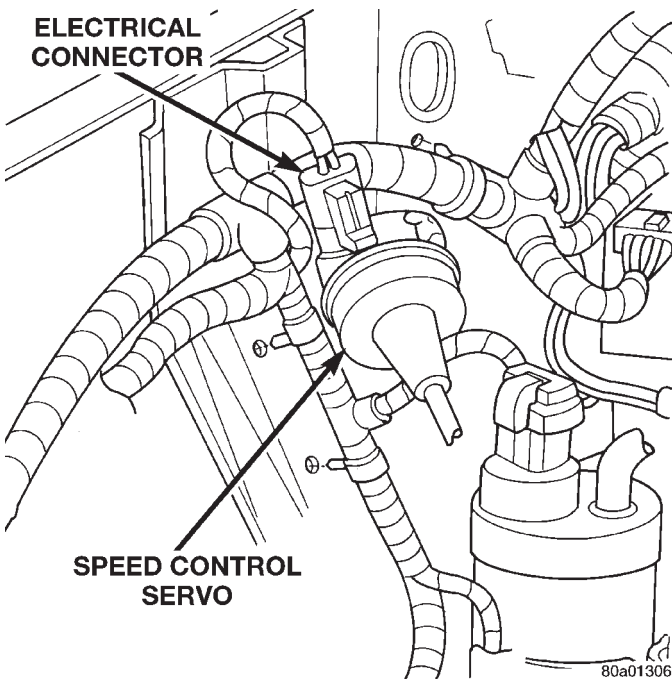

Fig. 2 Servo Electrical Connector Location
- (1) Start engine.
- (2) Disconnect 4-way electrical connector at servo (Fig. 2).